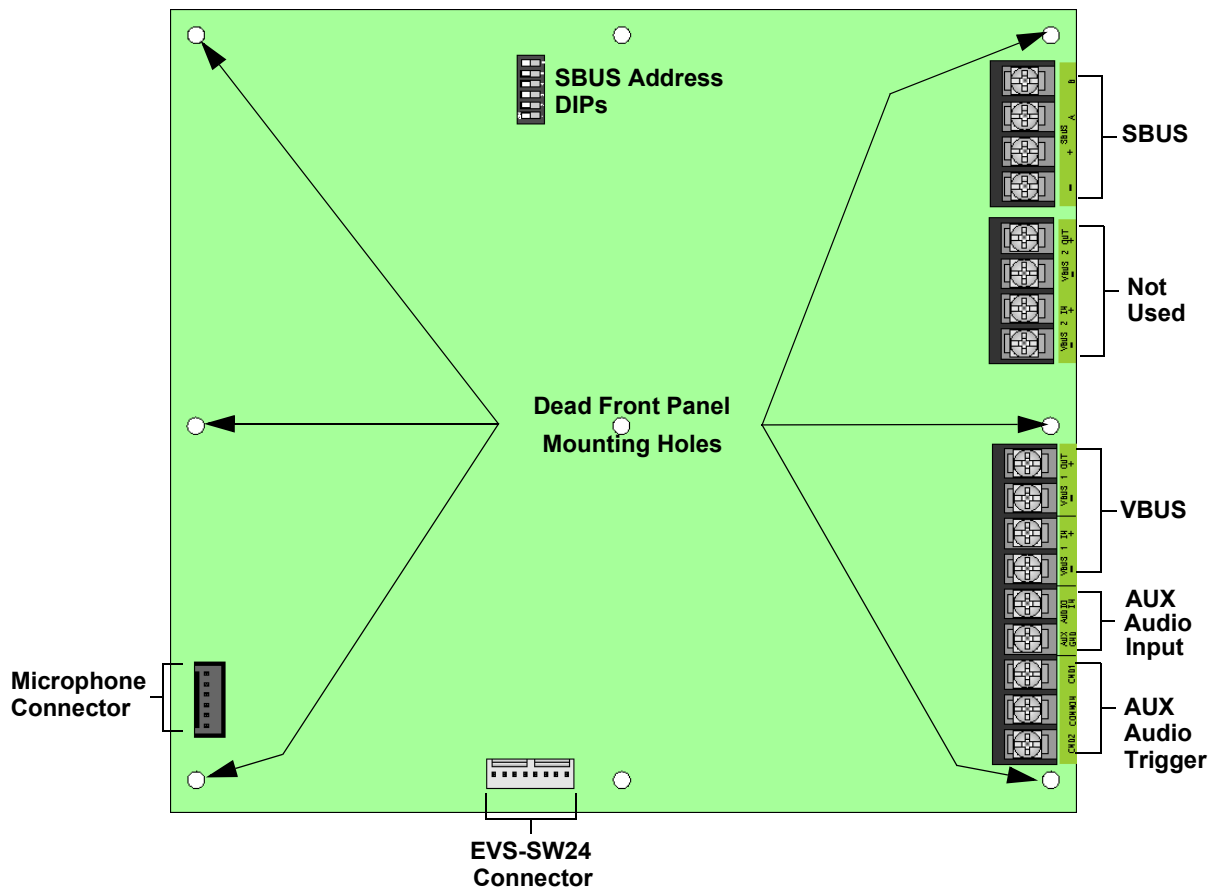

Figure 4-37 Back View of EVS-RVM
3. Disconnect any devices connected to the VBUS. See Figure 4-37.